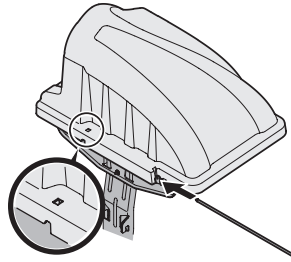
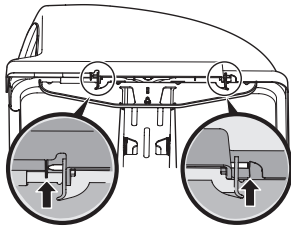

Figure 13
Figure 14
- Slide the hinge pin (711-04988) into the hole located on the mounting tab, as shown in Figure 13. Use the cut-out window (see inset in Figure 13) to line up the hinge pin on the other side and push pin all the way in until it reaches the end-stop. At this point the pin clips into place and is secured by a tab in the bagger cover. See Figure 14.